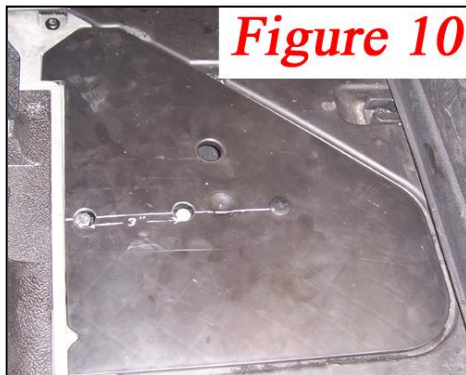

Figure 10
16. Drill 2- 5/8" holes in the access panel as shown in FIGURE 10 & reinstall access panel.